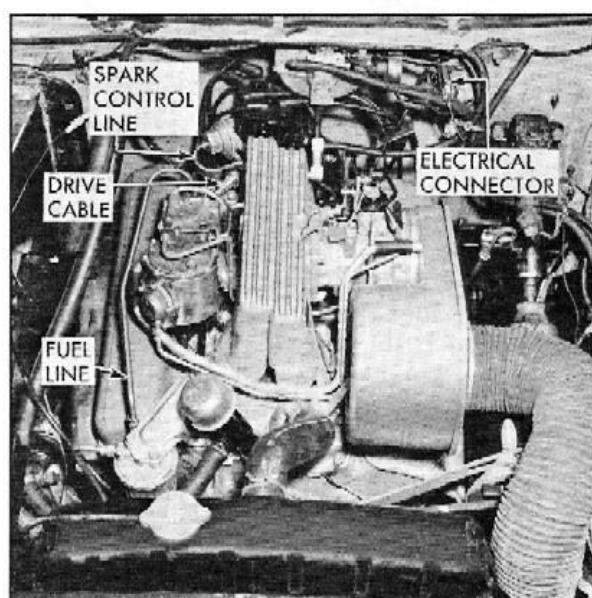

Fig. 6 Fuel Injection - Installed View
1. Disconnect and remove fuel injection pump drive cable by unscrewing nut attaching cable housing to distributor, pull housing and cable out of distributor, and then pull housing and cable free of fuel injection pump, Fig. 6.